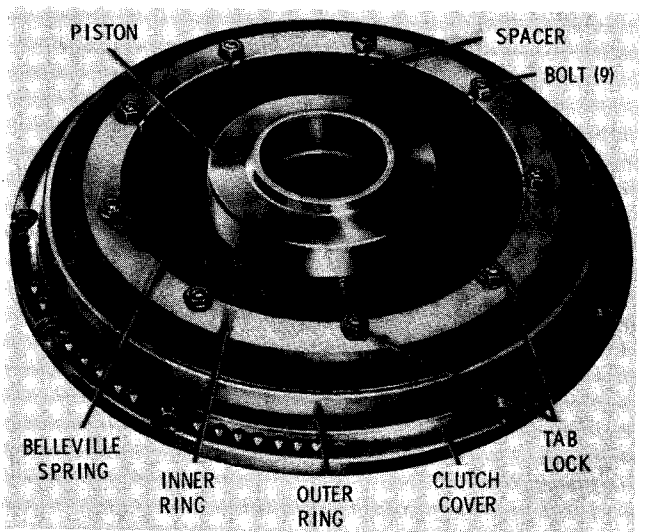

Fig. 5-21. Clutch cover assembly, removed (VH series)
(3) Straighten the tangs on the tab locks (fig. 5-21) and remove nine nuts and tab locks from the clutch cover assembly. Remove clutch spring inner ring, Belleville spring and nine spacers. Remove the clutch spring outer ring.